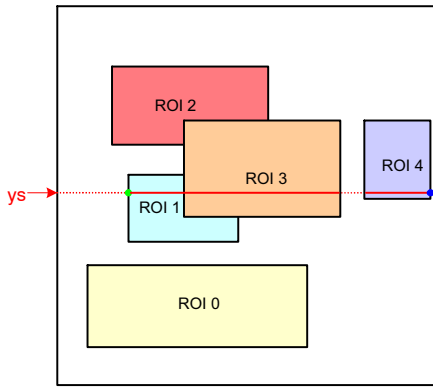

Figure 22. Scanning the Image Array with Five Windows
Figure 22 illustrates a practical example of a configuration with five windows. The current position of the read pointer (*ys*) is indicated by a red line crossing the image array. For this position of the read pointer, three windows need to be read out. The initial start position for the x-kernel pointer is the x-start configuration of ROI1. Kernels are scanned up to the ROI3 x-end position. From there, the x-pointer jumps to the next window, which is ROI4 in this illustration. When reaching ROI4's x-end position, the read pointer is incremented to the next line and *xs* is reinitialized to the starting position of ROI1.
- The read pointer is not necessarily incremental by one, but depending on the configuration, it can jump in y-direction. In Figure 22, this is the case when reaching the end of ROI0 where the read pointer jumps to the y-start position of ROI1